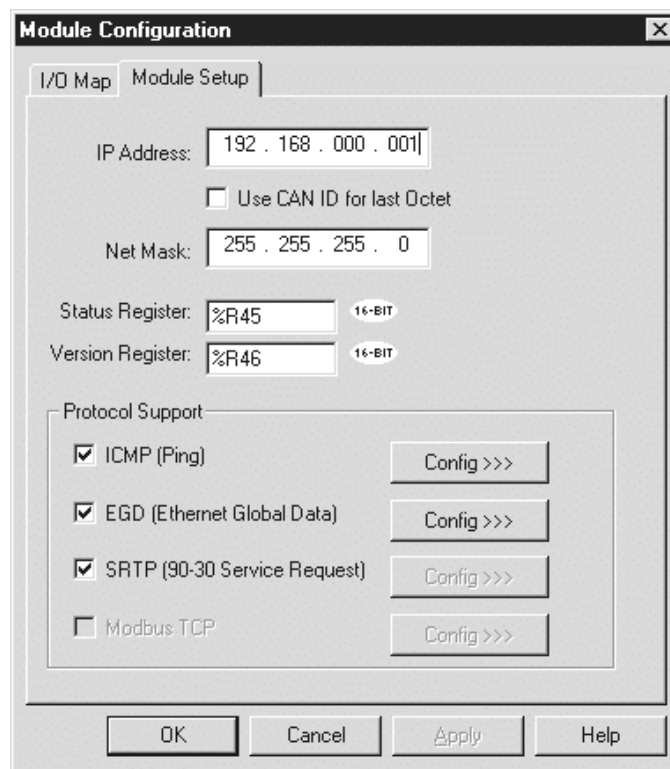

Figure 3.4 – Module Configuration Screen (Module Setup Tab Selected)
b. Module Setup Tab (Shown in Figure 3.4.)